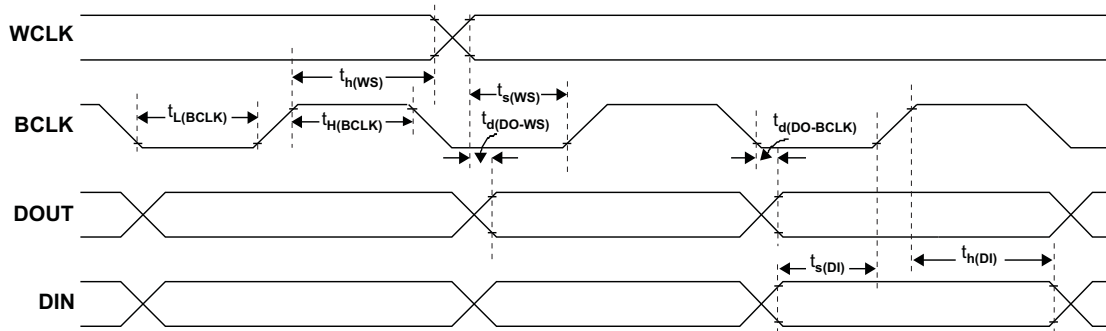

Figure 2. I²S/LJF/RJF Timing in Slave Mode
8.12 I²S/LJF/RJF Timing in Slave Mode (see Figure 2)